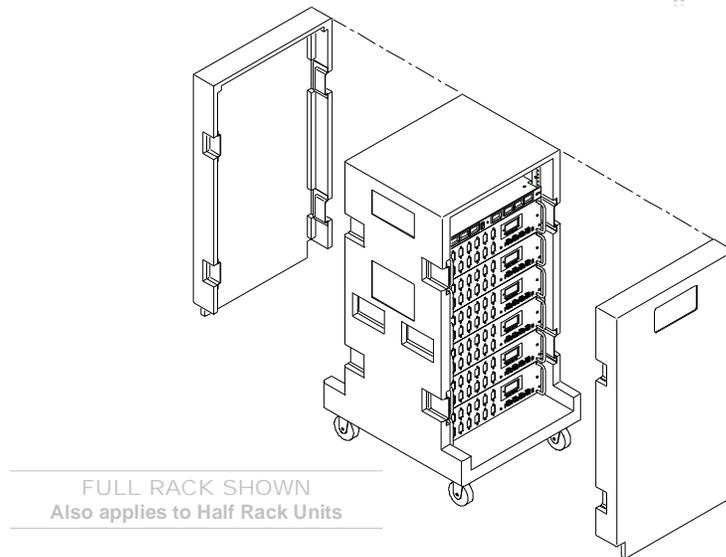

Figure 2-2: Removing Rack Covers
Step 1. Place rack in desired location and remove front and back covers (**Figure 2-2**).